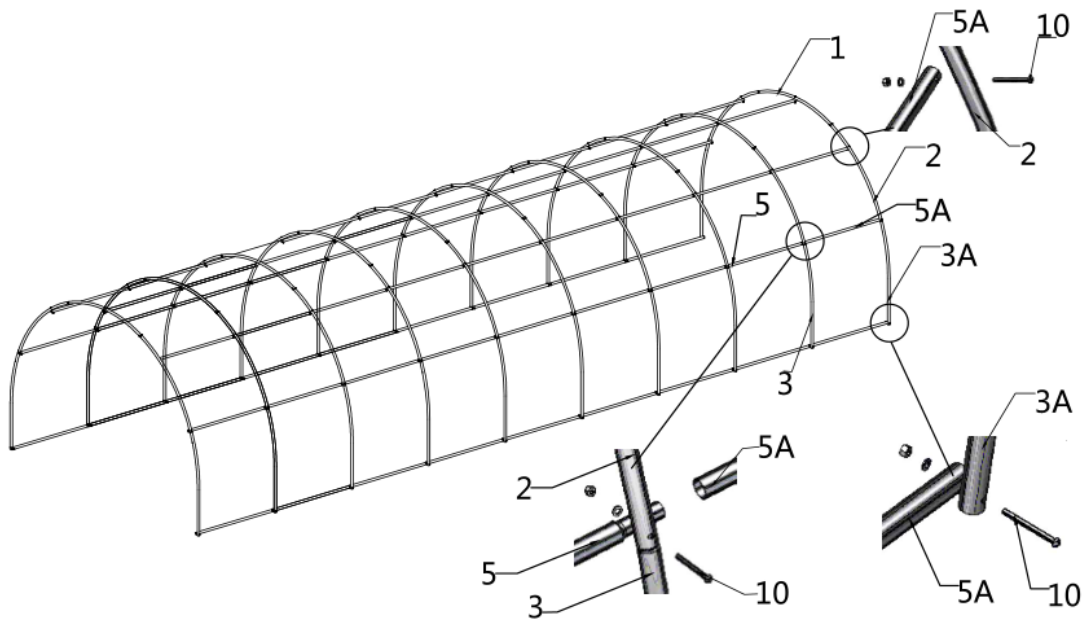

Figure 6
- Finally, the rear truss (the 10th span truss) is erected, and then the Roof purlin (#5A) is connected with the truss with bolts (#10). (refer to figure 6)
- (7) Roof purlin (#5A)